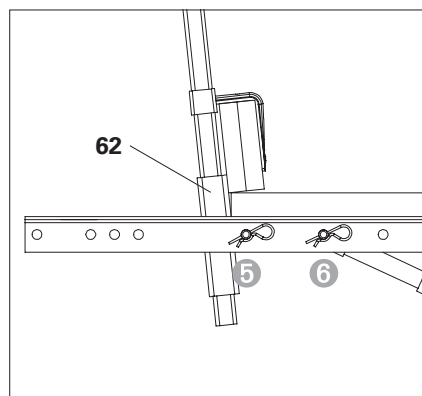
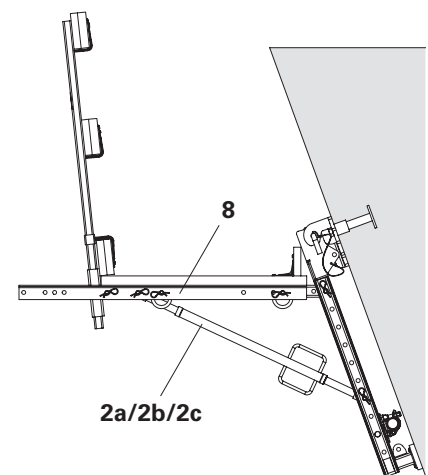

Fig. A4.05a
Fig. A4.05
- Guardrail Holder VGK (62) is always used on the 5th and 6th hole of Formwork Post VGK 120 (8).
- (Fig. A4.05 + Fig. A4.05a)